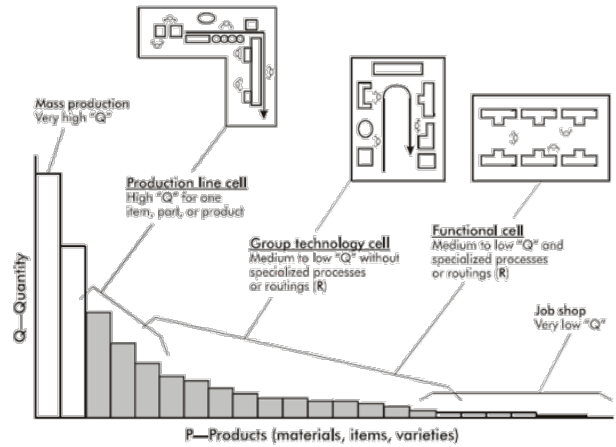

Figure 8. Key considerations in types of manufacturing cells definition.
Cells take different forms based upon the characteristics of the parts (P), quantities (Q) produced, and the nature of the process sequence or routing (R) employed. The relationship of these characteristics – P, Q, and R – and their influence on manufacturing cells can be seen in Figure 8.